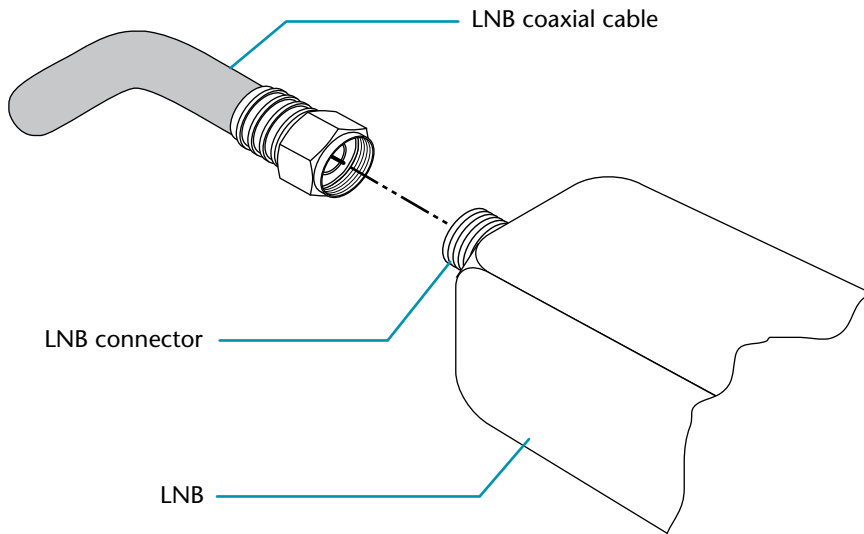

Figure 4-53. Installing LNB cable onto LNB connector
5. Install the coaxial cable onto the LNB connector (see figure 4-53).